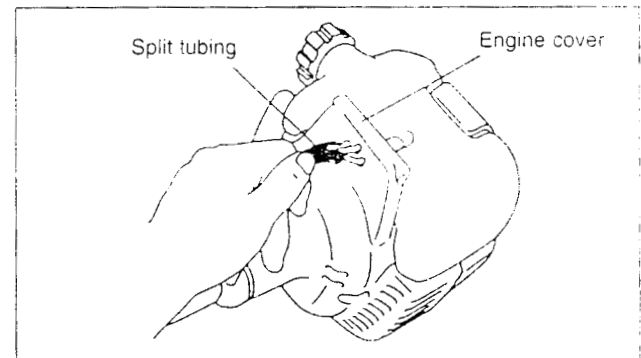

Fig. 10
6. Cover the throttle wire and switch cords with split tubing. (Fig. 10)